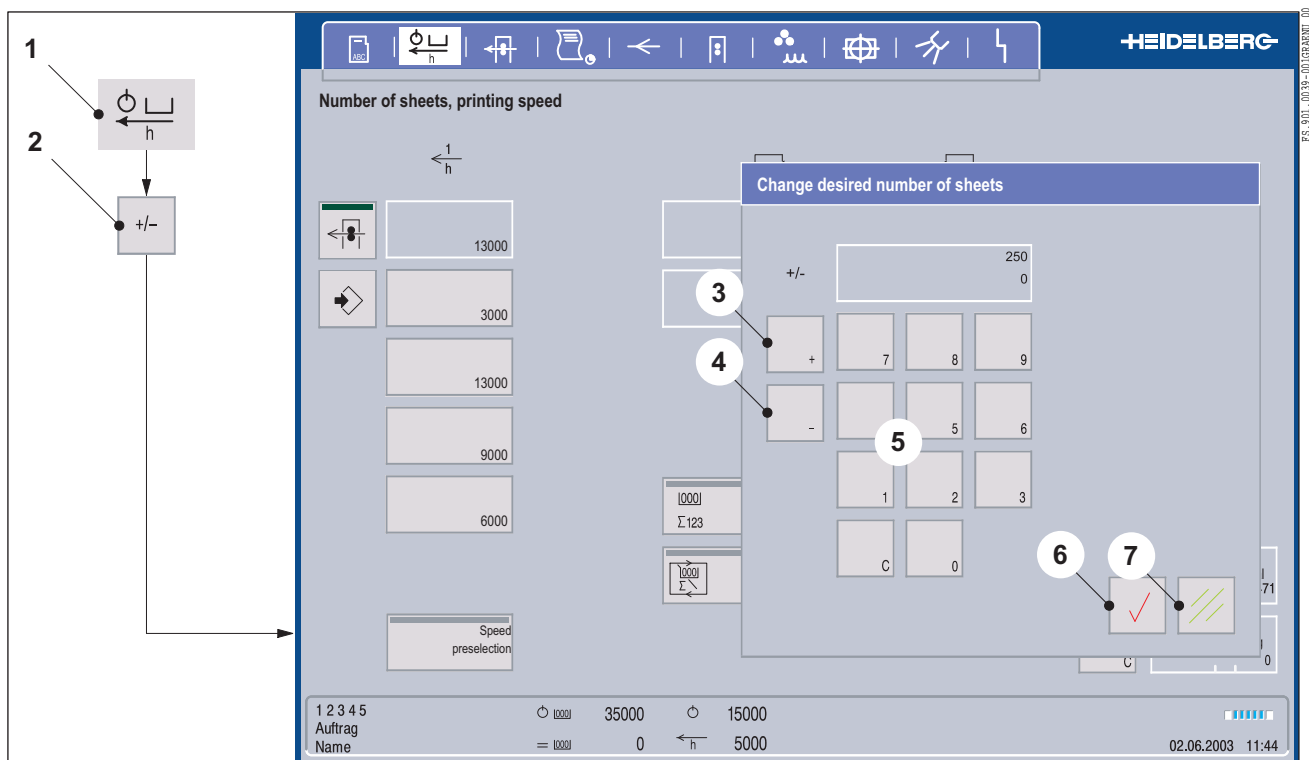

Fig. 3 Number of sheets/change desired number of sheets window
1. Use the *+/-* button (Fig. 3/2) to increase or decrease the desired number of sheets. The **Number of sheets/Change desired number of sheets** menu appears.
2. To increase desired number of sheets: Press the *+* button (Fig. 3/3) and use the numeric keypad
(Fig. 3/5) to enter the value by which you wish to increase the desired number of sheets.
To reduce the desired number of sheets: Press the - button (Fig. 3/4) and use the numeric keypad (Fig. 3/5) to enter the value by which you wish to reduce the desired number of sheets.
If you press the *Desired number of sheets* button (Fig. 3/2) and alter the desired number of sheets, the job counter and the waste-sheet counter are **not** reset to 0.